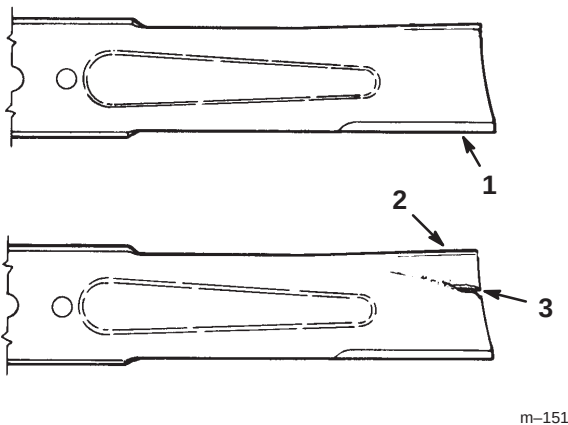

Figure 38
1. Inspect the cutting edges (Fig 38). If the edges are not sharp or have nicks, remove and sharpen the blades. Refer to Sharpening the Blades on page 32.
2. Inspect the blades, especially the curved area (Fig. 38). If you notice any damage, wear, or a slot forming in this area (item 3 in Fig. 38), immediately install a new blade.